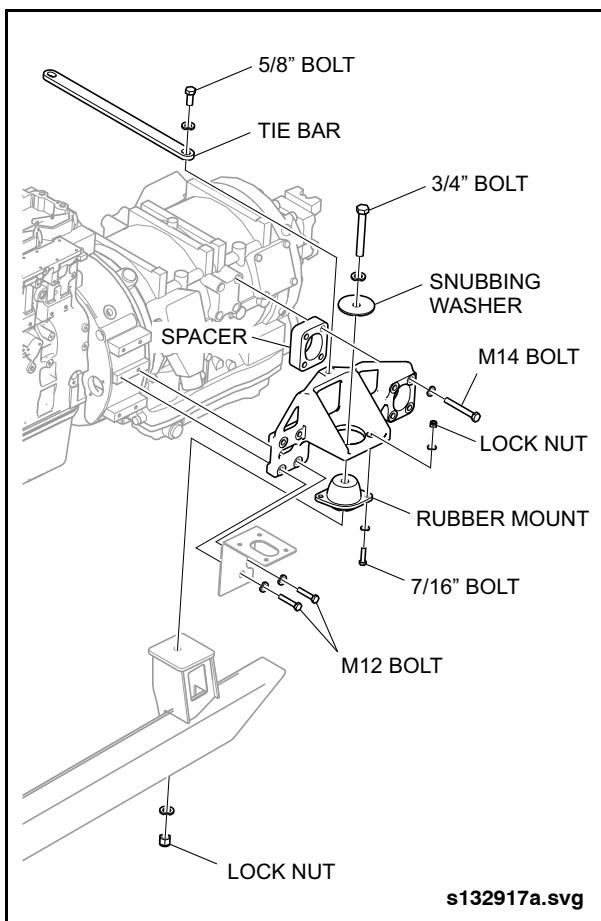

Fig. 4-10: Rear Engine Mount
5. Remove the 3/4" bolt, washers, snubbing washer, and lock nut that secure the rubber mount to the side engine mount bracket and frame rail bracket. Note the location of the snubbing washer for re-installation. See "Fig. 4-10: Rear Engine Mount" on page 14.